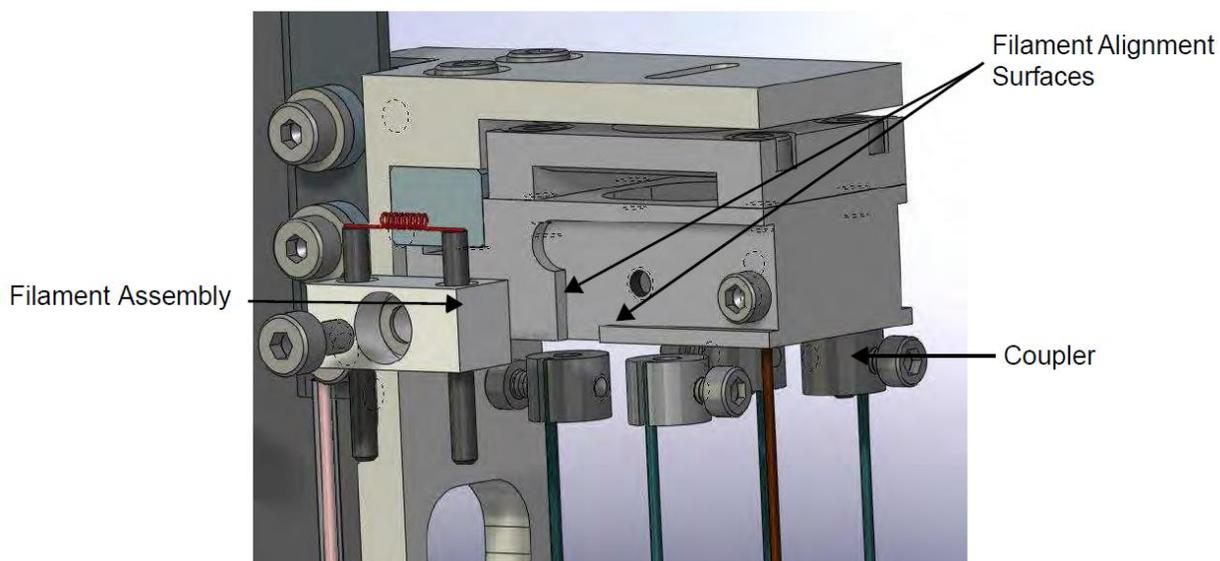

Figure 2-4. Filament removal and replacement
10. On a clean work surface, remove the defective filament(s) from the spectrometer by loosening the two coupler screws. Then loosen the M2 screw and washer and remove the defective filament(s). See Figure 2-4.